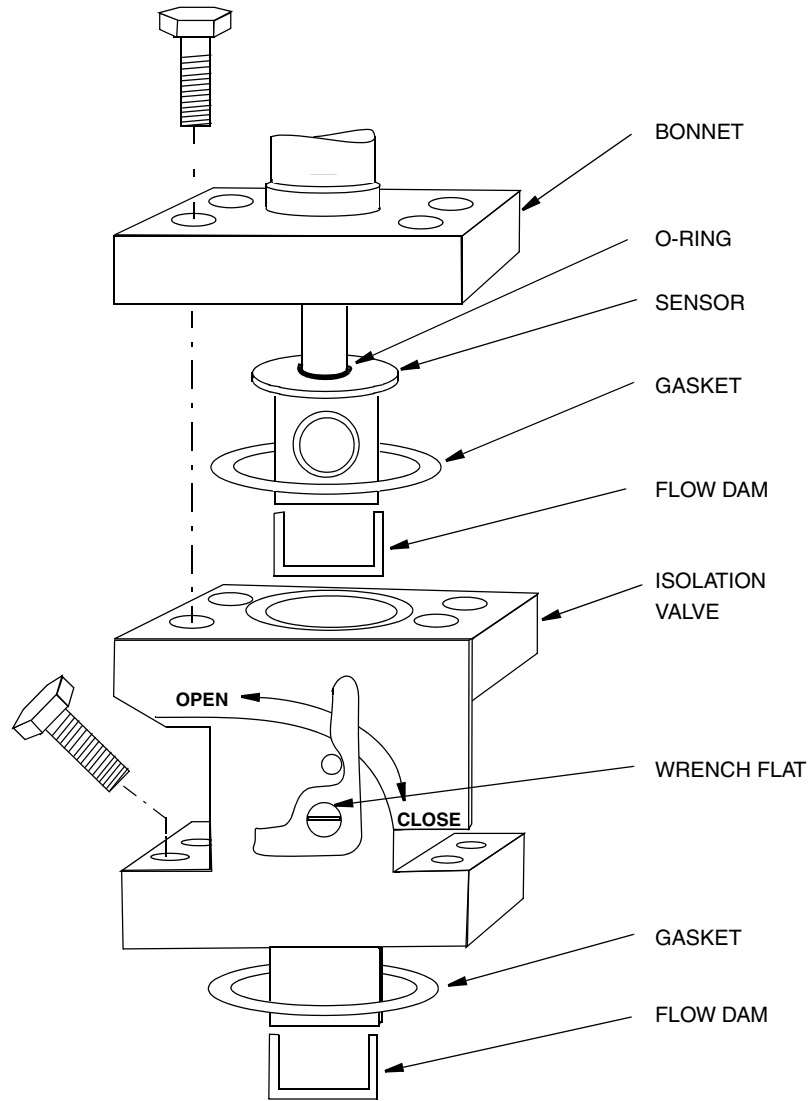
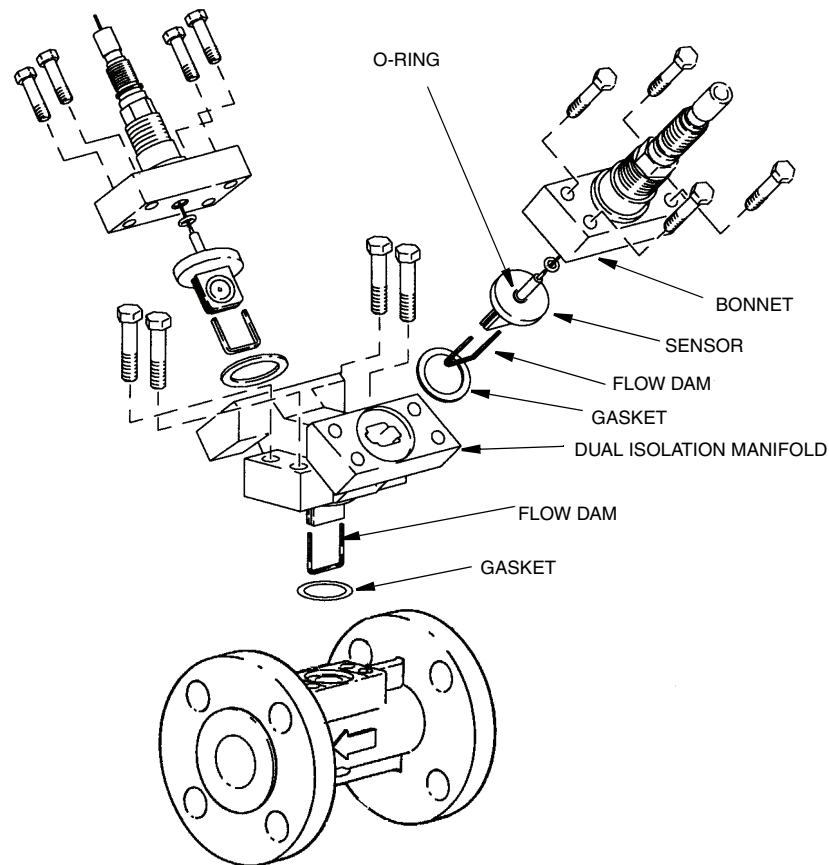

Figure 62. Single Isolation Valve (Style A)
Figure 63. Dual Isolation Manifold (Style A)
1. Close the valve. This is a dual port, single ball 1/4-turn valve. Use a wrench on the flat on the valve stem to turn clockwise one quarter turn. See Figure 62.
3. Install a new gasket and flow dam on the lower section of the valve body and assemble the valve into the flowmeter body. Refer to Figure 62 or Figure 63. These are the same gaskets and flow dams used with sensors.